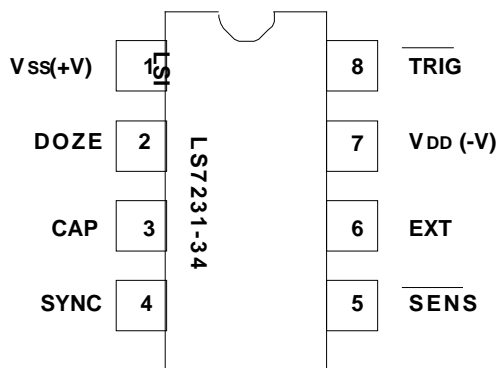

FIGURE 1
- LS7231 to LS7234 (DIP) - See Figure 1